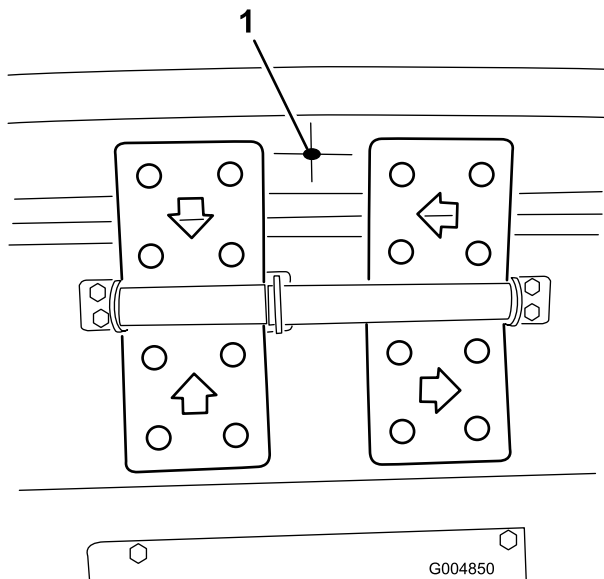

Figure 70
1. Locate, mark and drill a .281 inch diameter hole in the front wall of the cab as shown in Figure 70. The hole is to be located approximately in the center of the cab wall (side to side and up and down)